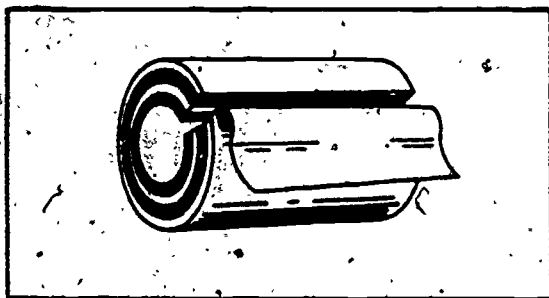

Figure 4-9. Frostproof insulation.
i. Frostproof. Frostproof insulation, shown in figure 4-9, is manufactured to be used on cold water service lines that pass through unheated areas and those exposed to outside weather conditions. Frostproof insulation is generally constructed of five layers of felt. These layers include three of pure woolfelt and two of asphalt-saturated asbestos felt. Frostproof insulation comes in 3-foot lengths, and is 1 1/4 inches thick with a canvas cover.